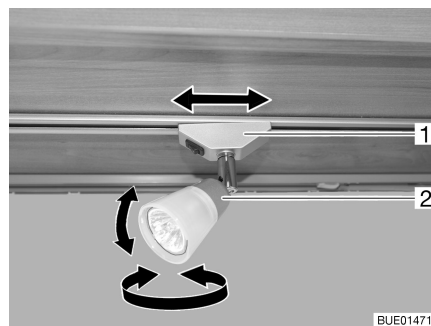

Fig. 26 Spotlight
- Grasp the housing (Fig. 26,2) and turn it.
- Grip holder (Fig. 26,1) and turn by approx. 45°.
- Grip holder (Fig. 26,1) and turn by approx. 90°.